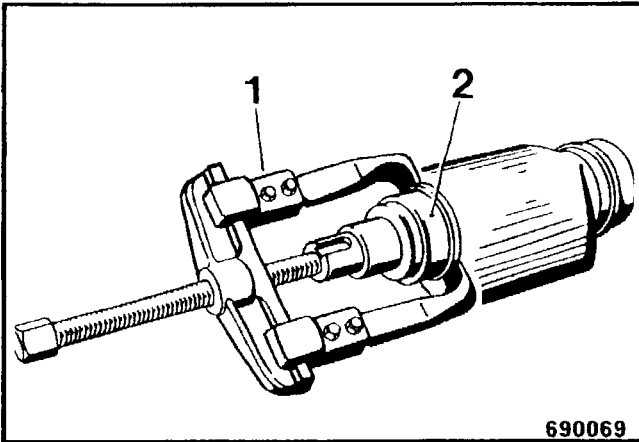

Fig. 11
- Attach the puller 1 (Fig. 11). Force the inner ring of the bearing (2) off the exciter shaft.